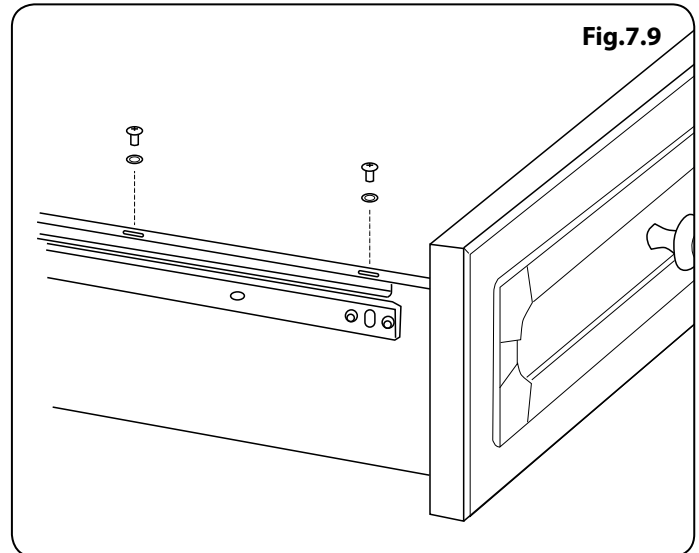

Fig.7.9
3. Unscrew the two fasteners and remove the screw washers from either side of the storage drawer runner brackets (**Fig.7.9**).